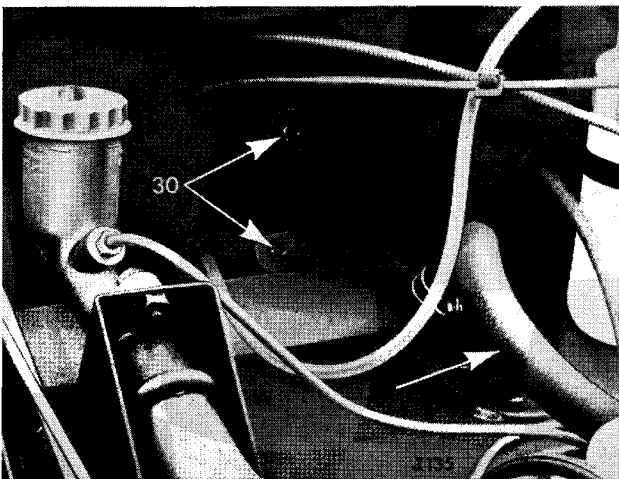

Fig. 70. Heater unit to body attachment
Reverse the removal procedure. A second operation is required when refitting the four bolts (30) (Fig. 70). Refer to Dust and Water Sealing, page 5-601.